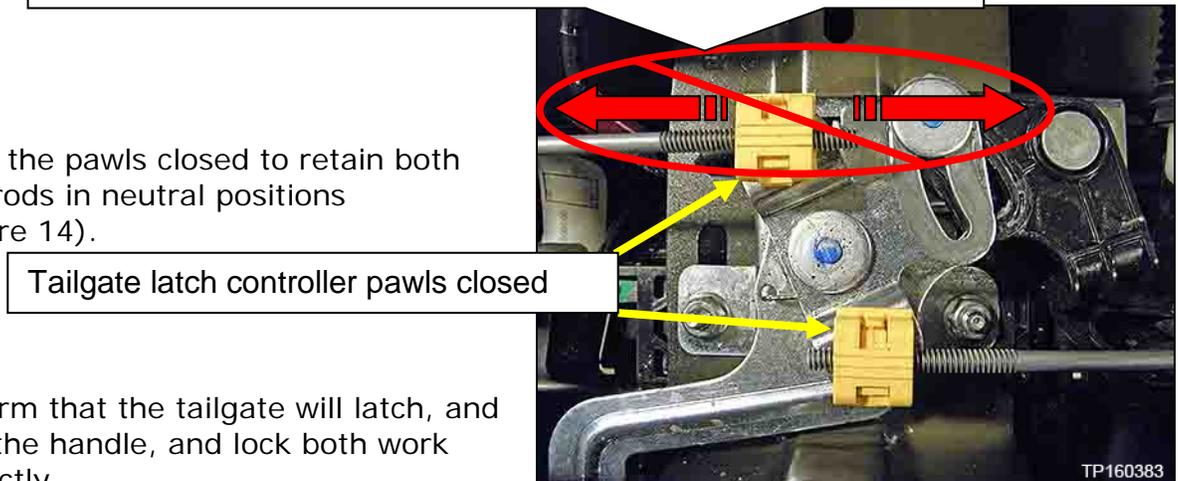

Figure 14
2. Snap the pawls closed to retain both lock rods in neutral positions (Figure 14).